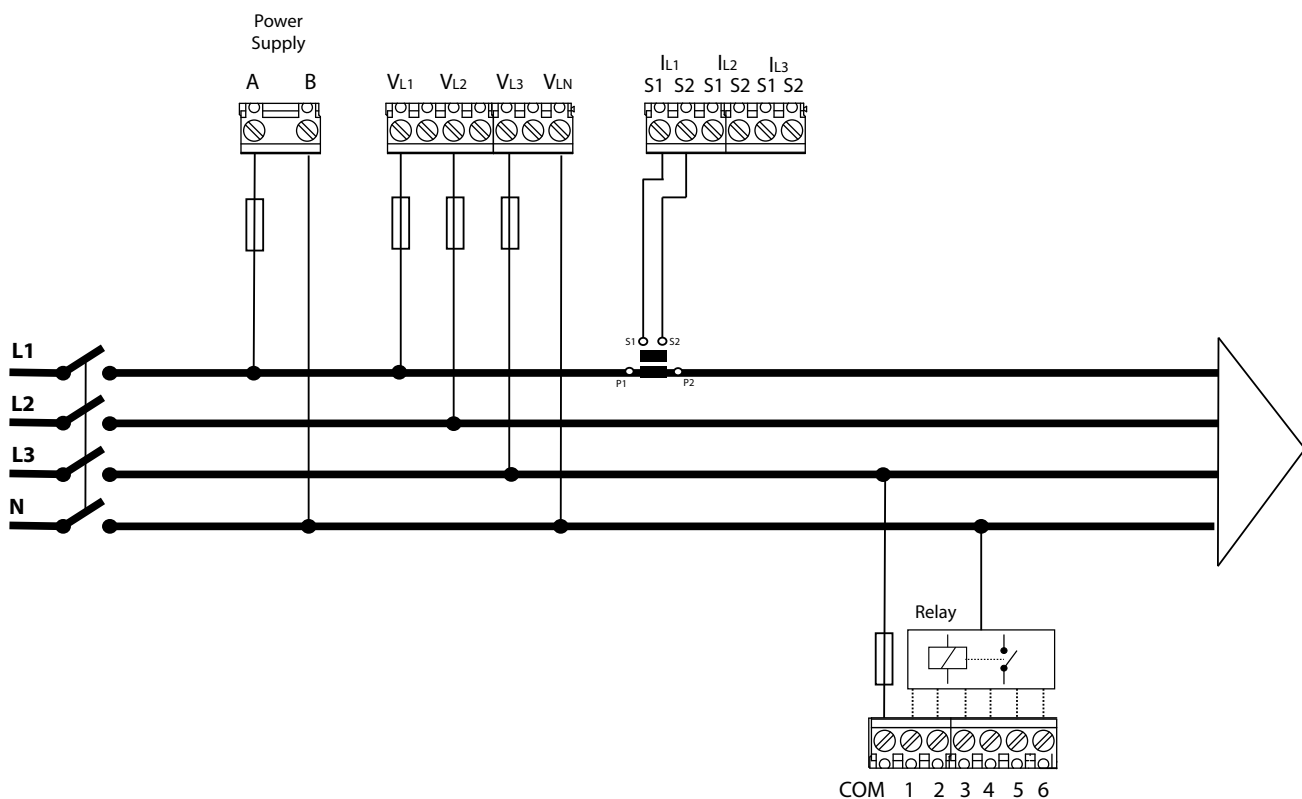

Figure 5: 3 voltages + neutral and 1 current, Controller MASTER control VAR 6 model.
**NB:** The auxiliary power supply can be connected Phase-Neutral (as in Figure 5) or Phase-Phase, as long as the power supply range is not exceeded (see “6.- TECHNICAL FEATURES”).